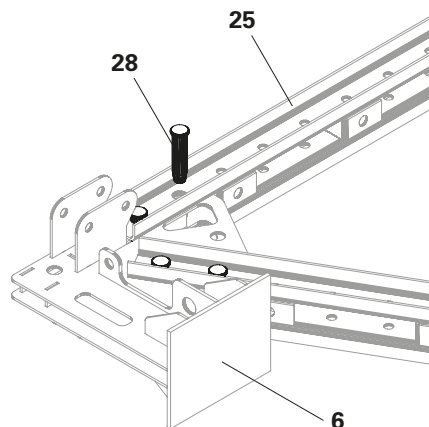

Fig. A2.08a
1. Slide the Steel Waler 262 (25) onto the Support Node ATG (6).
2. Fix Steel Waler 262 (25) to the Support Node ATG (6) using 2x fitting pins Ø 32 (28) respectively and secure with cotter pins 5/2 (29). (Fig. A2.08a + A2.08b)